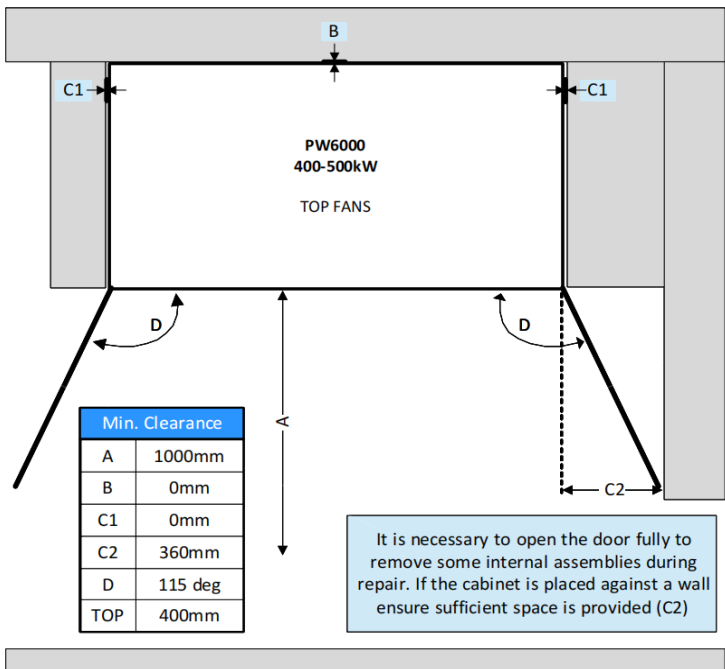

Figure 3.1 UPS Cabinet clearance recommendations
It is necessary to open the doors to 115° to gain full service access to some components, so if the cabinet is located adjacent to a partition or wall that extends beyond the front of the cabinet a clearance of up to 250 mm should be provided between the side of the cabinet and the wall to allow the doors to open adequately, as shown in Figure 3.1 (C2). Note that no space required between cabinets in a parallel system.
2. The recommended clearances shown in Figure 3.1 remain valid.